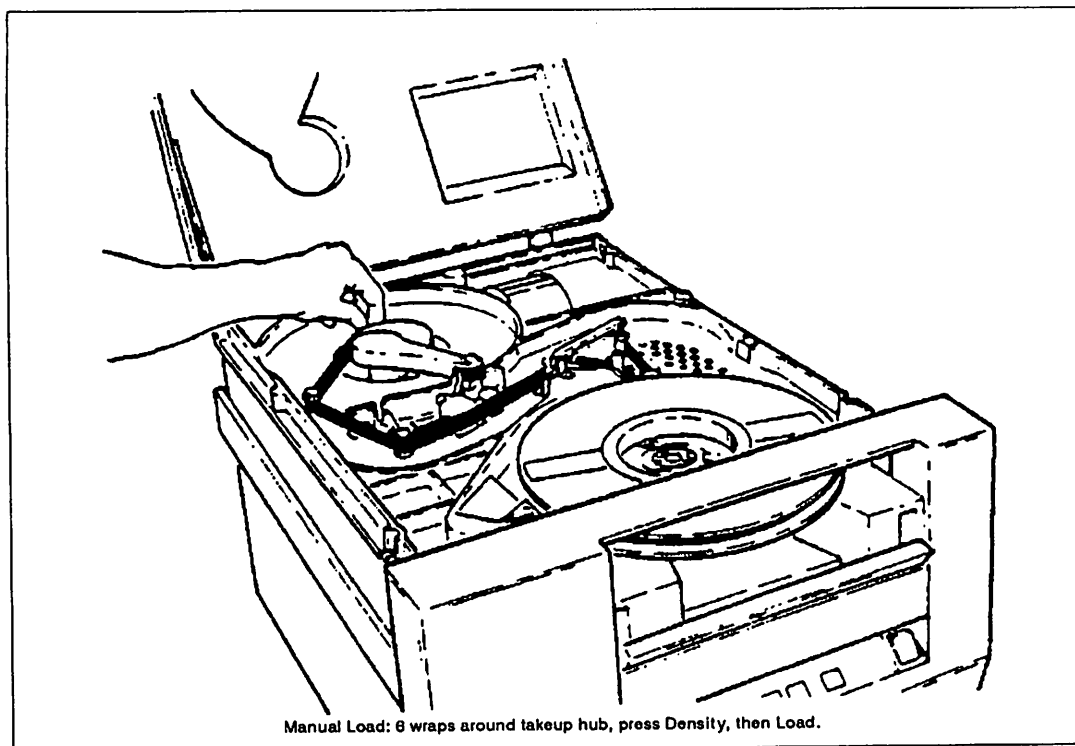

Figure 4-9. Loading Tape
5. Remove fastener from squared-off end of 1/2 inch tape 1200 or 2400 feet reel, and insert with tape uncoiling clockwise through hinge-up doorway (Figure 4-9).